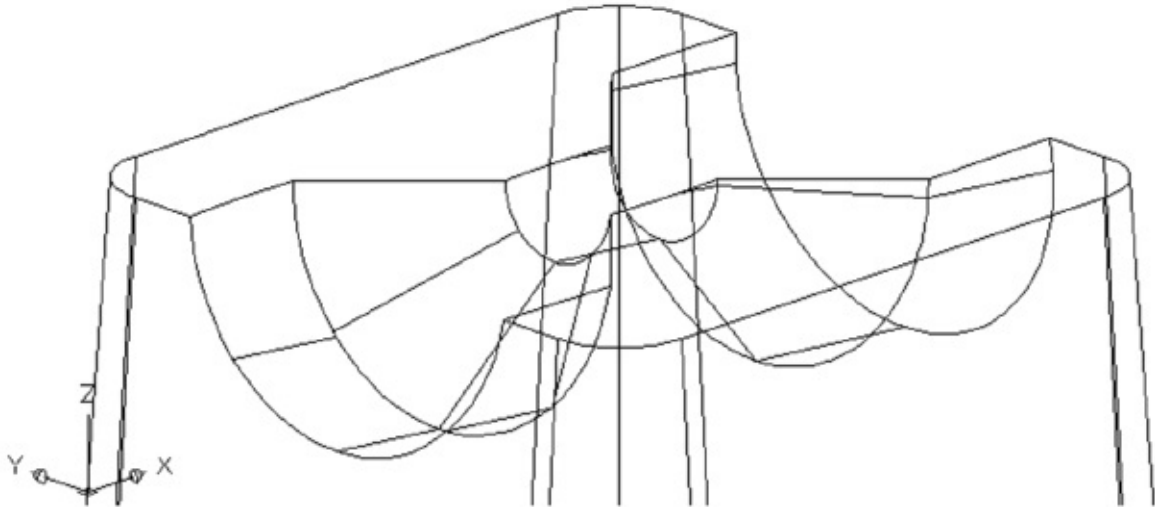

FIGURE 22.14 The composite solid
7. At the Select objects: prompt, click the revolved solid and press ↵. Your drawing looks like Figure 22.14.